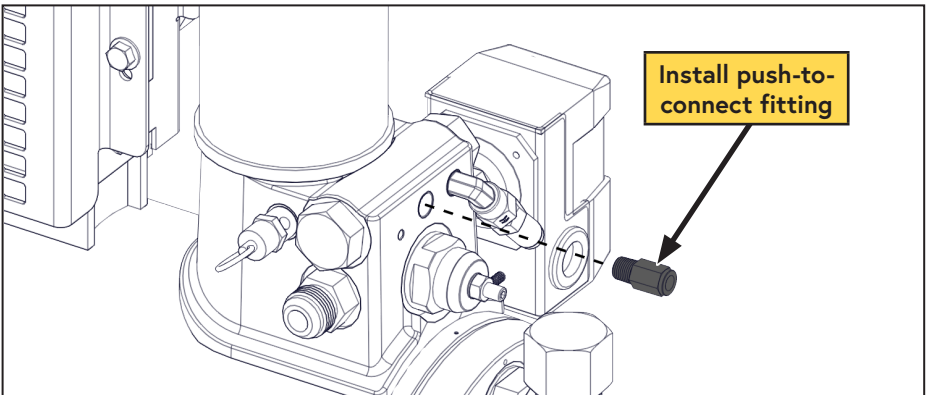

Figure 47 — Install push-to-connect fitting
- Apply Loctite 567 (thread sealing) compound to the 1/4 in push-to-connect fitting and install it into the threaded hole which previously held the blowdown muffler (Figure 47).